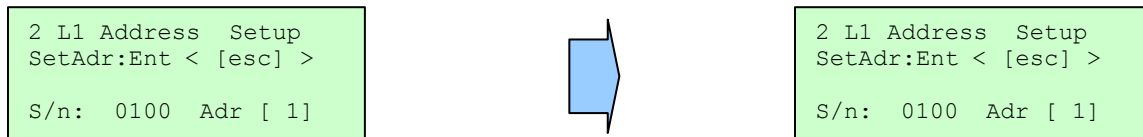

Figure 16 – Locating the VAA to address by serial number
3. From the Address Setup page you can cycle through all the connected VAA units by pressing the **ENTER** key. The VAA units will appear starting with the unit with the lowest serial number. VAA serial number 0100 will be used in this example. Once you have found the serial number of the VAA that you want to change the address of, press the **•** key once. You will notice on the second line of the display the text will change from "Accept" to "SetAdr", as shown in Figure 16.